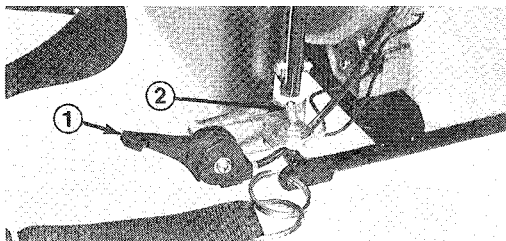

Figure 4
3. Vary engine RPM by operating the throttle lever (Fig. 4). Idle speed, if desired for blowing leaves from a lawn or flower bed, is achieved by moving the throttle lever to the idle position. Medium to high speed, used to clean grass, wet leaves, etc. from walks, patios and drives,